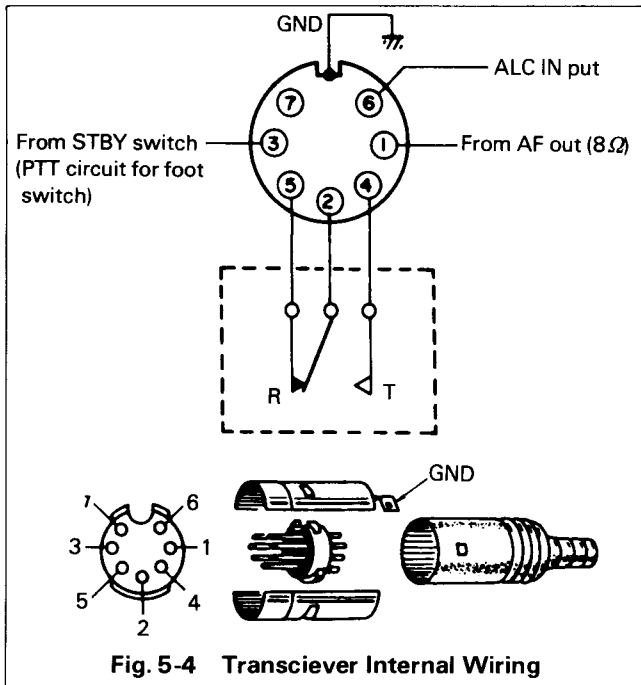

Fig. 5-4 Transceiver Internal Wiring
Fig. 5-4 shows the REMOTE connector. This DIN plug can be used for attaching a linear amplifier or other external accessories to the transceiver. Always use shielded line for all functions.
■ Operation with a linear amplifier. Refer to Fig. 5-4.